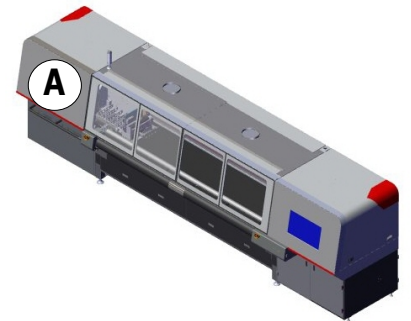

Figure 6-26 Printer Front View
2. Open carriage access door, Figure 6-26 location (A).